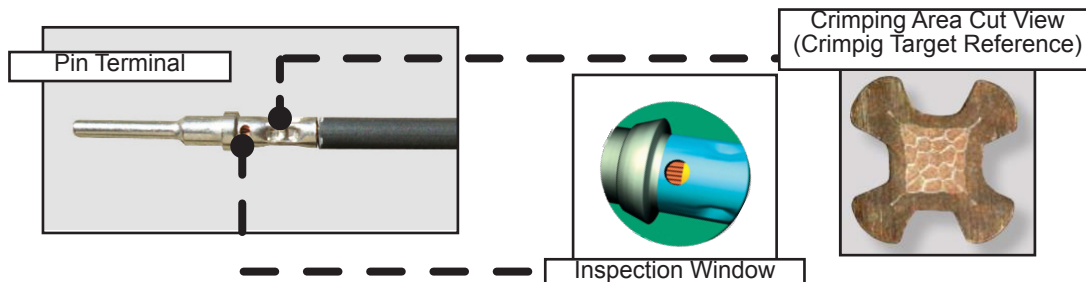

Figure 16 - Deutsch DT Pin Terminal
- 1.30. Using the Deutsch DT crimping tool (see figure 10), crimp the pin terminal PN G5900719 on both WHITE and RED control wires (see figure 16). Refer to the figure below showing a typical Deutsch DT solid socket terminal crimp example and to Annex 3 for more information about the TE Connectivity's Deutsch DT solid terminals crimping quality guidelines.